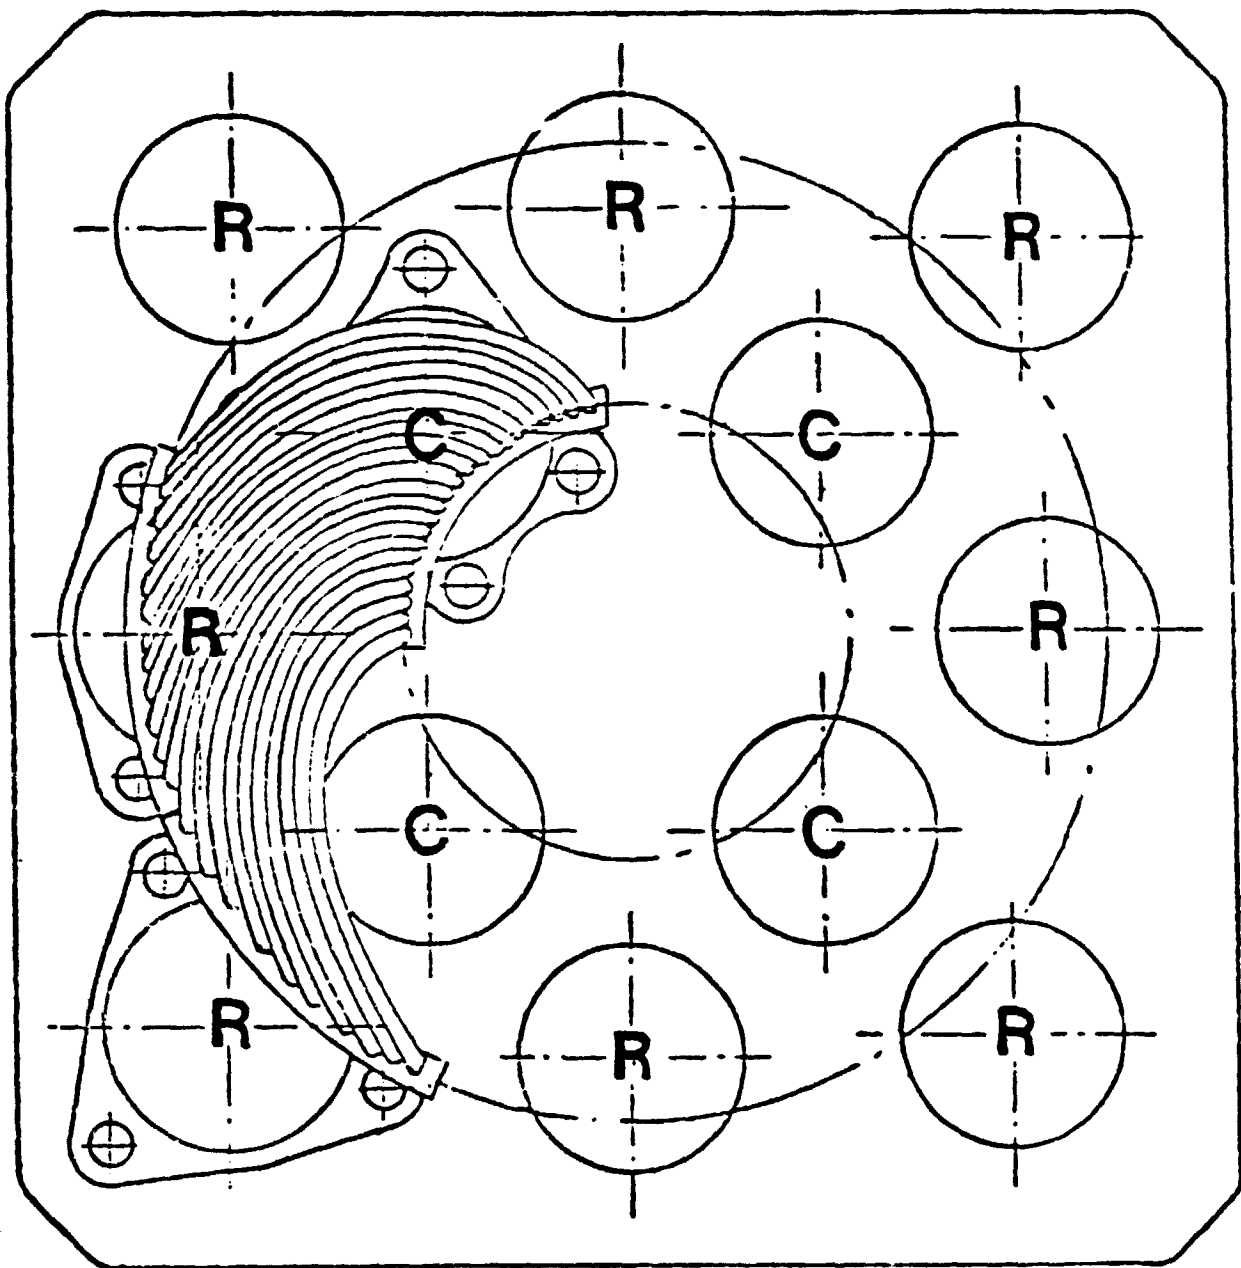

Figure 2-2. P-40 Cylinder and Regenerator Arrangement
- The orientation and location of cylinders and regenerators (including their offset in the horizontal plane, as shown in Figure 2-2) must remain unchanged.